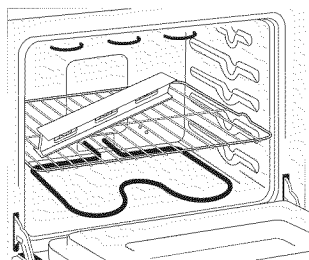

Figure 9
1. Install an oven rack in the center of the lower oven (see Figure 9).